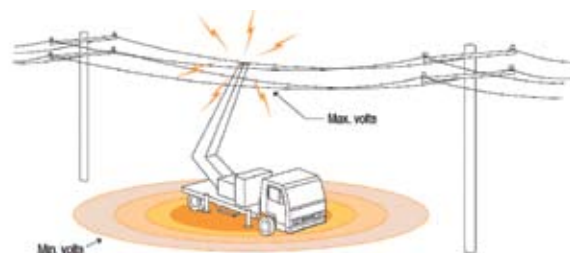

Figure 3 Diagrammatic representation showing mobile plant contacting high-voltage powerline and voltage gradient
- Keep all personnel away from the mobile plant, ropes and load, as the equipment and ground around the machine could be energized (Figure 3). Be aware that any fallen conductors could also whip around unexpectedly.